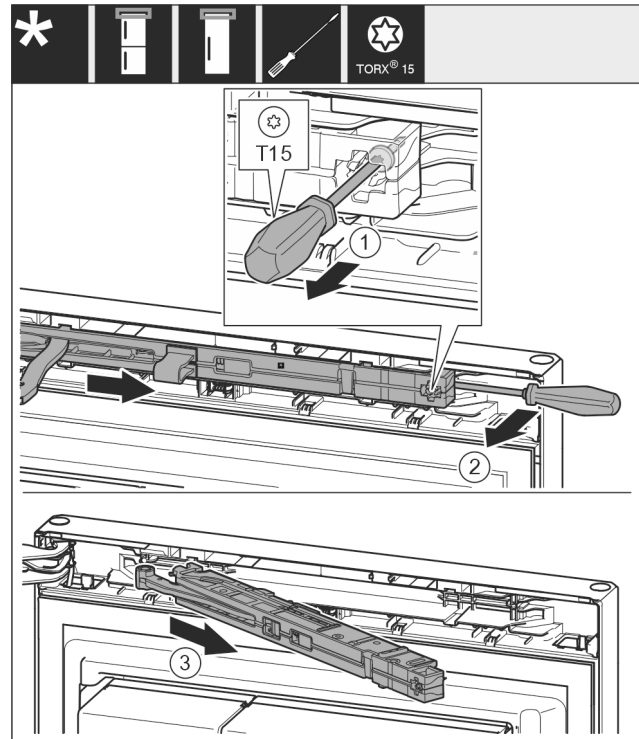

Fig. 10
- Loosen the screw *Fig. 10 (1)* on the closing damper unit with a 14 mm (9/16 in) screwdriver.
- Use the screwdriver to lift out the closing damper unit *Fig. 10 (2)* on the handle side.
- Pull out the closing damper unit *Fig. 10 (3)*.